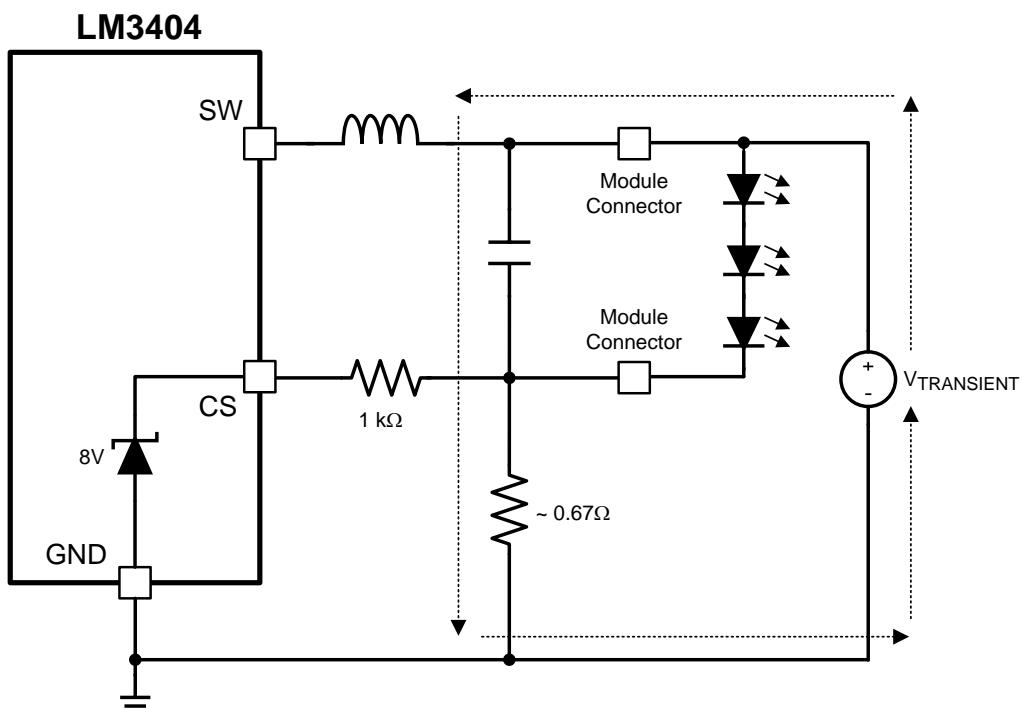

Figure 22. CS Pin, Transient Path With Protection
When hot swapping in a load (that is, test points, load boards, LED stack), any residual charge on the load will be immediately transferred through the output capacitor to the CS pin, which is then damaged as shown in Figure 22. The EOS event due to the residual charge from the load is represented as $V_{TRANSIENT}$.
From measurements, we know that the 8-V ESD structure on the CS pin can typically withstand 25 mA of direct current (DC). Adding a 1-k Ω resistor in series with the CS pin, shown in Figure 22, results in the majority of the transient energy to pass through the discrete sense resistor rather than the device. The series resistor limits the peak current that can flow during a transient event, thus protecting the CS pin. With the 1-k Ω resistor shown, a 33-V, 49-A transient on the LED return connector terminal could be absorbed as calculated by: